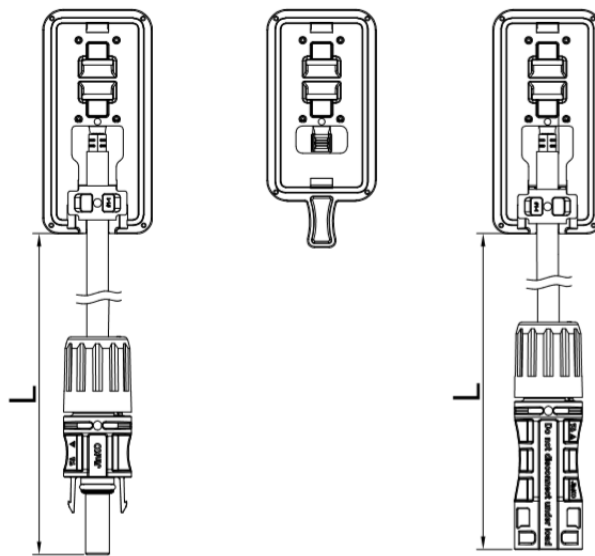

Fig. 12 The half-cut cell module/ split junction box
- l) The length of the junction box shall be determined according to the component specifications and the customer's design proposal. As shown in Figure 12 below, consider the length of the lead wire before designing the wiring;